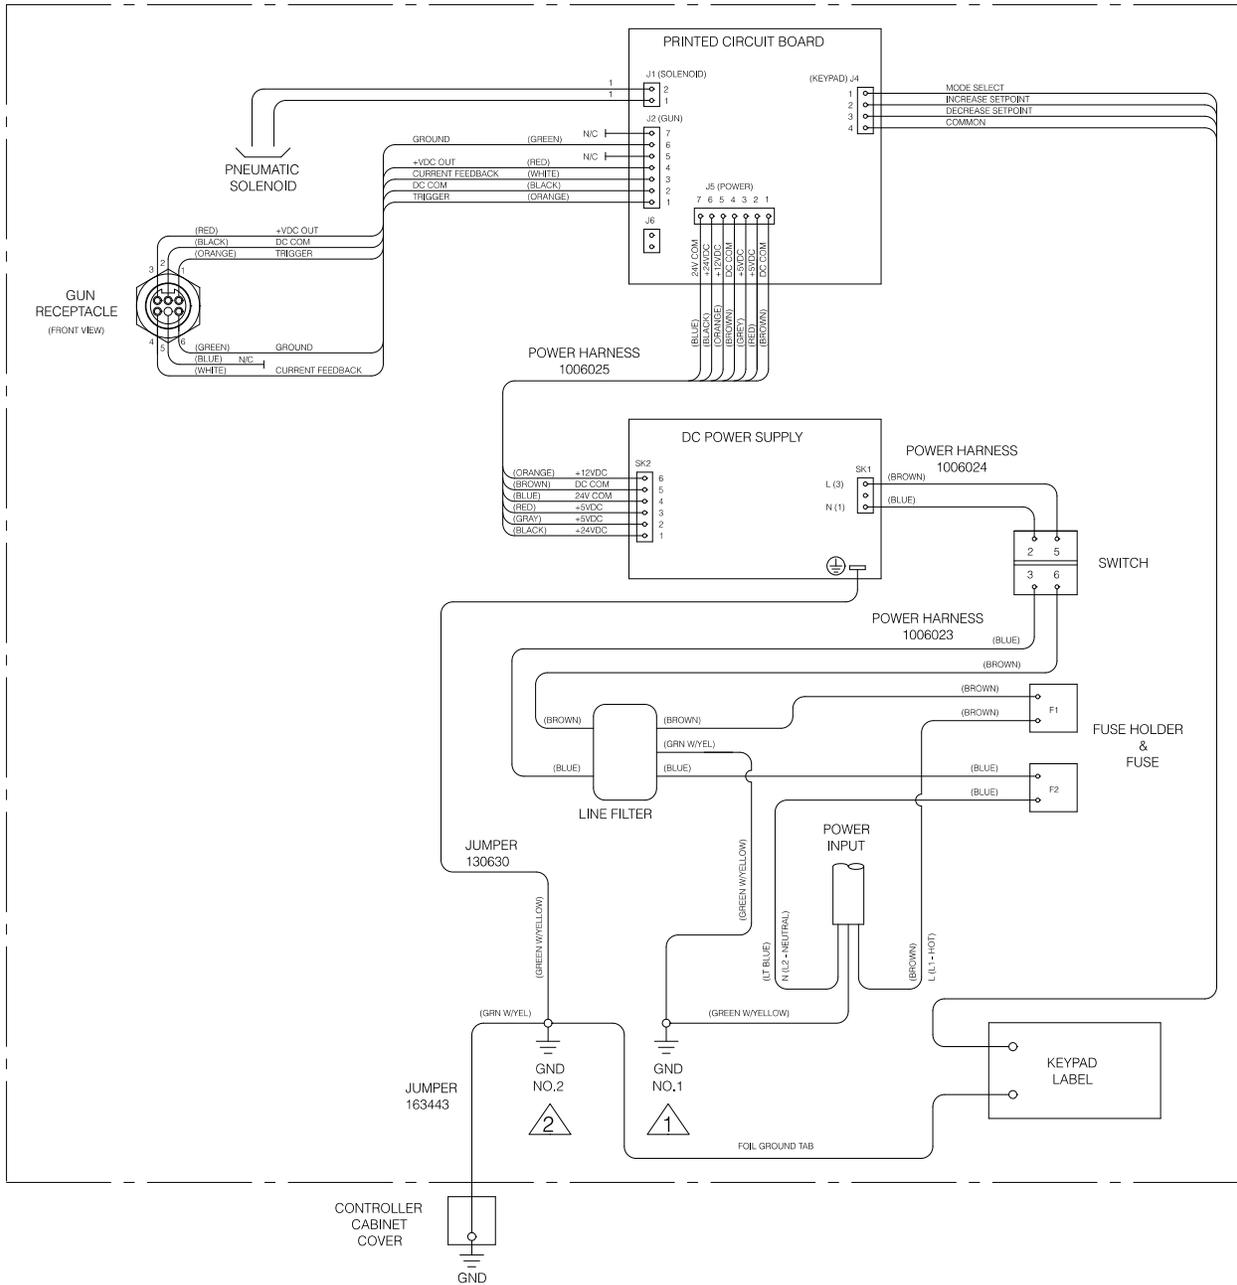

Figure 8 Electrical Schematic for Vantage Controller without Vibratory Motor Control
See Figure 8.
8. Connect the wiring harnesses to the circuit board as shown in Figure 8.